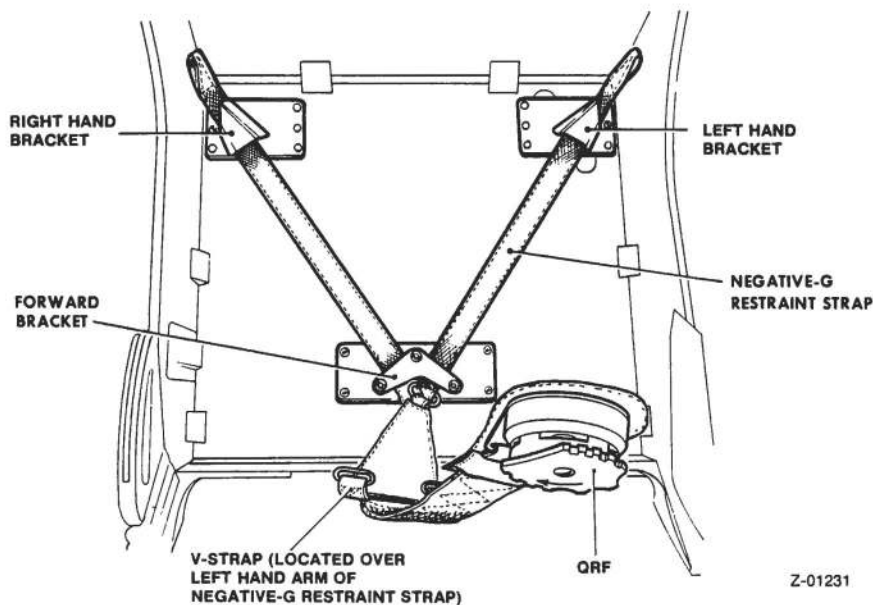

Fig 5 Installation of the negative-g restraint strap and V-strap
24.1.2 Route the two bifurcated tapes of the negative-g strap through the front bracket in the floor of the seat pan from front to rear. Pass the bifurcated tapes rearwards and route them through their respective tunnel brackets in the rear lower corners of the seat pan (fig 5).